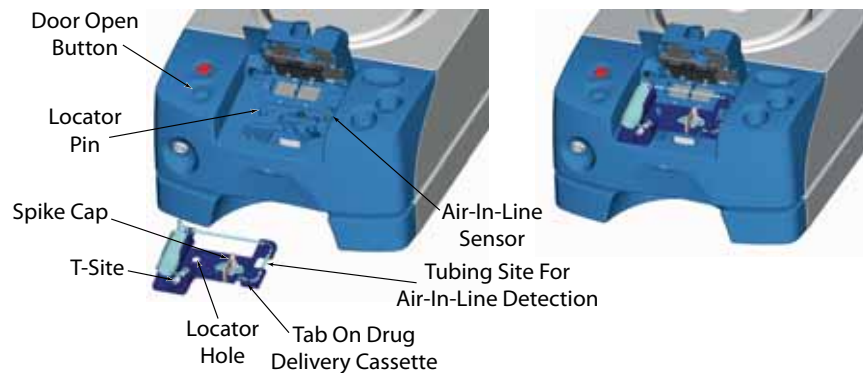

Figure 6-23 Placement of Drug Delivery Cassette into PRU
1. Open the cassette door by pressing the **Door Open** button on the top of the PRU (refer to Figure 6-23 on page 6-19).